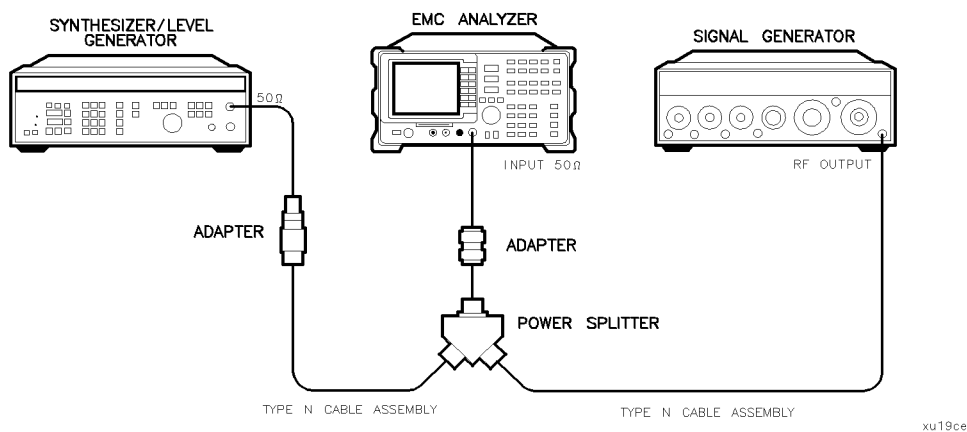

Figure 2-9.
- Connect the equipment as shown in Figure 2-9. Note that the power splitter is used as a combiner.